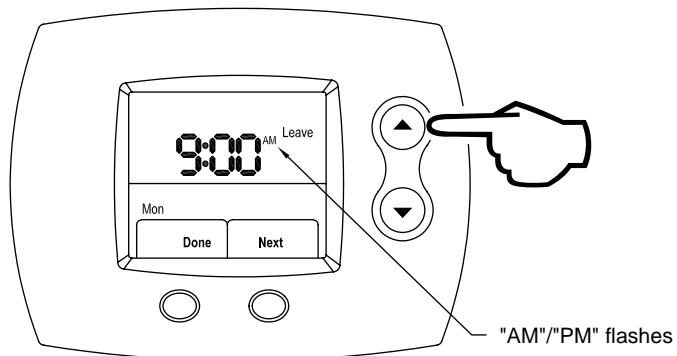

Figure 86
Step 12: Next, using the **UP** (index AM / PM) or **DOWN** (index AM / PM) buttons, select AM / PM, as shown in Figure 86.